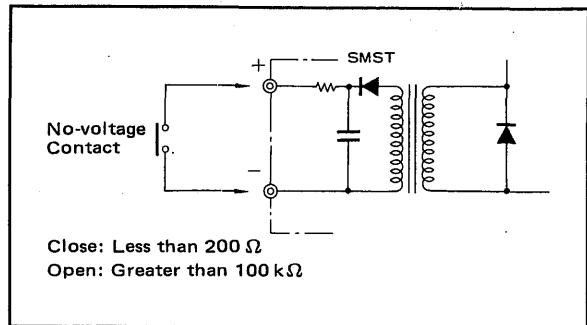
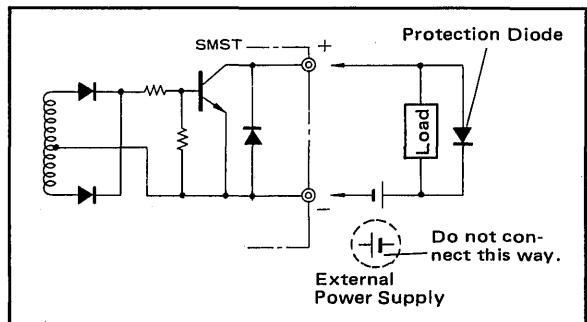

Figure 3-1. External Contact Input Connections.
Figure 3-3. Contact Output Connection to External Load.
- (1) Furnish all cable ends with solderless crimp-on lugs.
- (2) Connect external voltage-and/or no-voltage-levels contact input so that the values specified in Figures 3-1 and 3-2 are obtained. Conductor resistance and consequent voltage drop must be taken into account. For contact input specifications, refer to GS 1B4D3-E at the end of this manual.
- (3) When driving remote equipment such as fail and alarm outputs, using transistor switch contacts, wire in accordance with the following instructions.
- o Connect a protection diode (surge absorber) in parallel with inductive loads such as relays to protect the transistor switch from transients when energizing or deenergizing external circuits. (See Figure 3-3).
- o Match the power polarity to the terminal markings when connecting the power supply used to drive the external equipment. (See Figure 3-3).